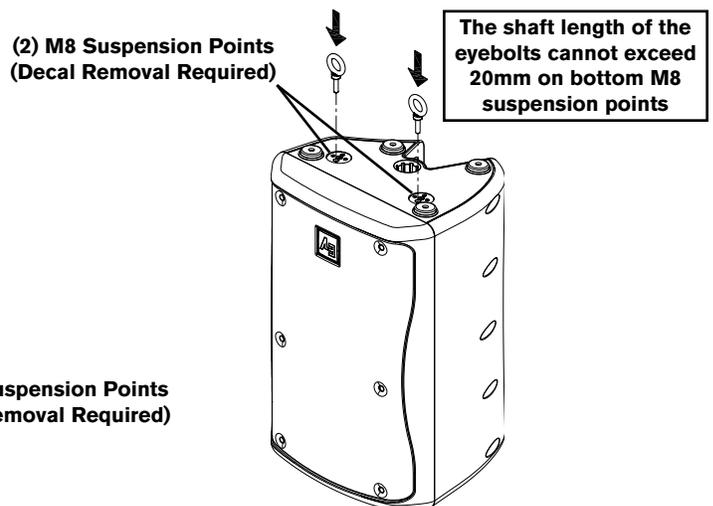

Figure 3b:
*EBK-3 on Bottom of Top Enclosure (Not Shown, See Figure 3b)